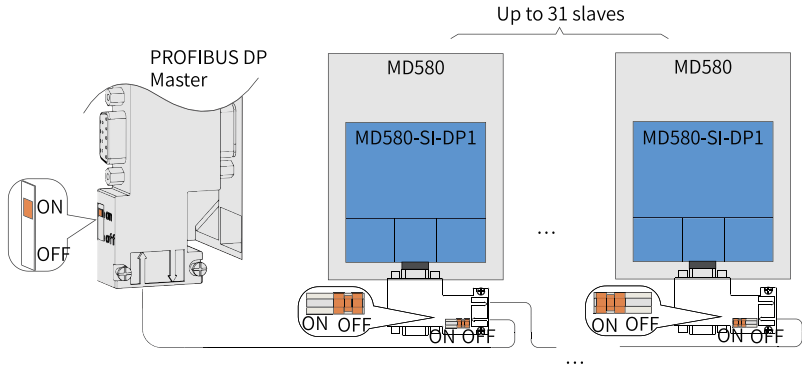

Figure 6-59 Multi-drive system connection without any repeater
- For multi-drive system connection without any repeater, connect termination resistors to the first and last AC drives, as shown in *"Figure 6-59 Multi-drive system connection without any repeater"* on page 131.